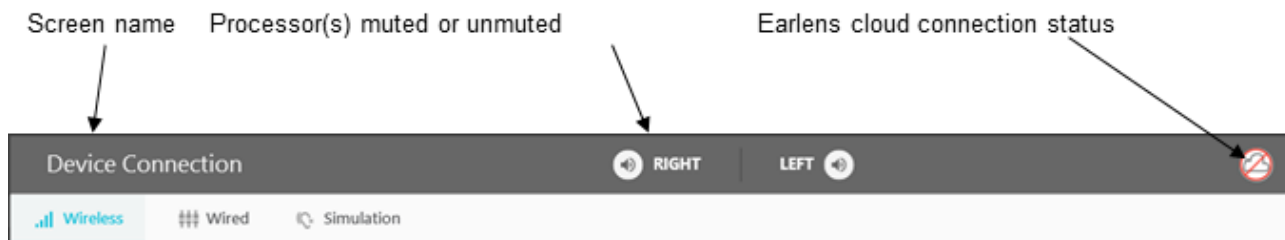

Figure 9: Information Bar
- **Information Bar** (Figure 9)